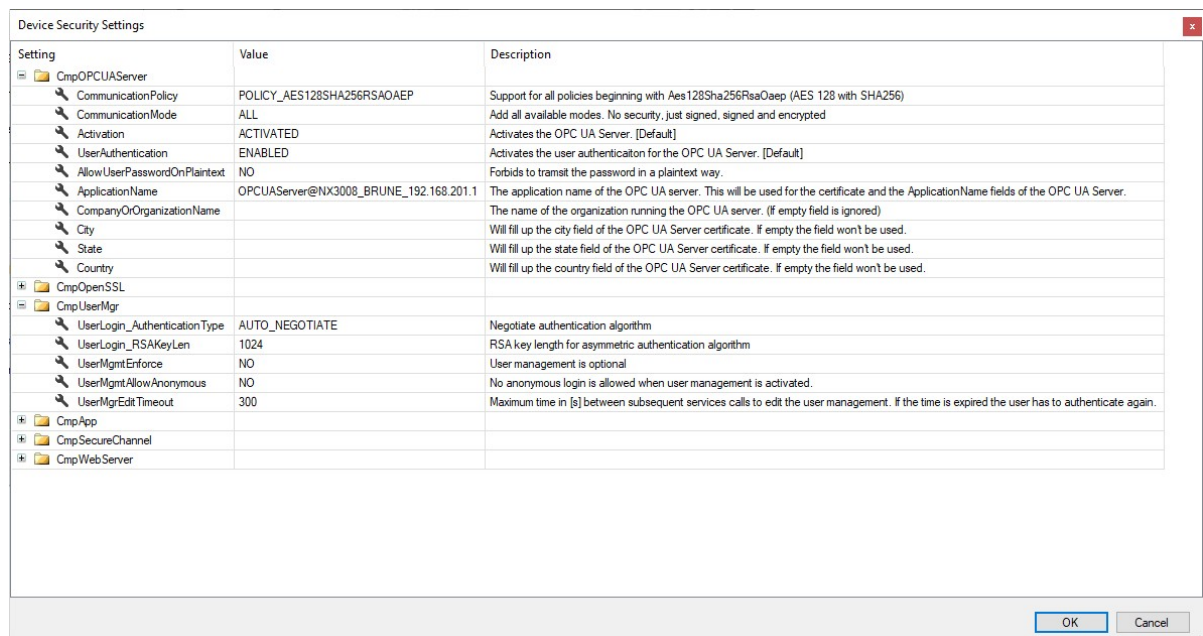

Figure 5-4. Window with security settings
Considering the window in Figure 5-4, the following setting must be adjusted:
- Anonymour login is not allowed. This means that, in Figure 5-4, the following setting must be adjusted: CmpUserMgr / UserMgmtAllowAnonymous = NO.
In the screen of Figure 5-4, the following security setting must be adjusted for not accepting connection without authentication:
Regarding sign and encrypt, the user must adjust the two following parameters in the screen of Figure 5-4: